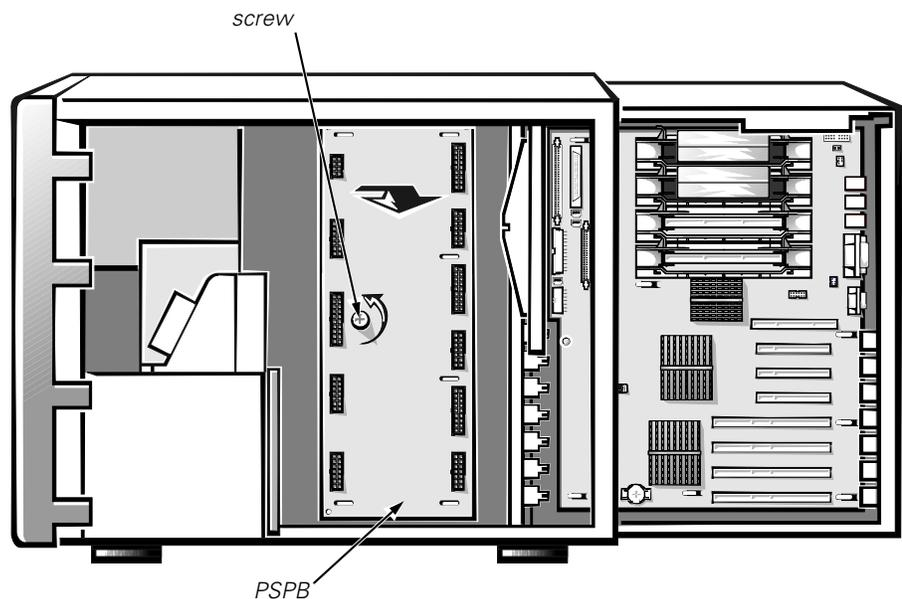

Figure 4-12. Power-Supply Paralleling Board
- 3. Loosen the captive screw securing the PSPB to the chassis wall (see Figure 4-12).**